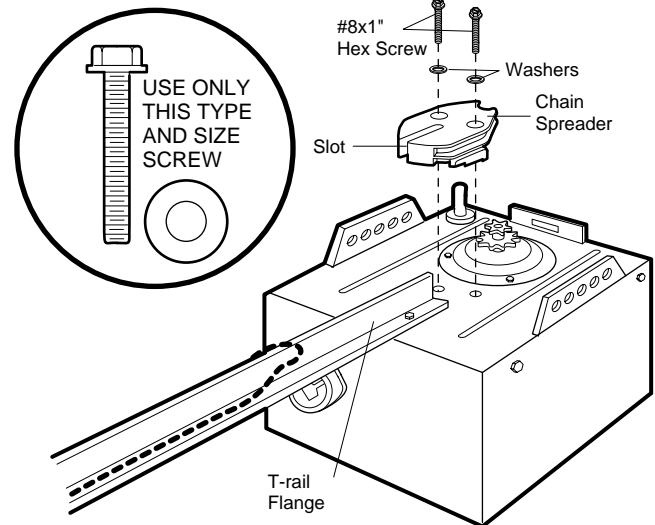

Figure 1
- Line up the holes in the chain spreader with the holes in the motor unit as shown. The slot in the chain spreader must fit over the T-rail flange (Figure 1).